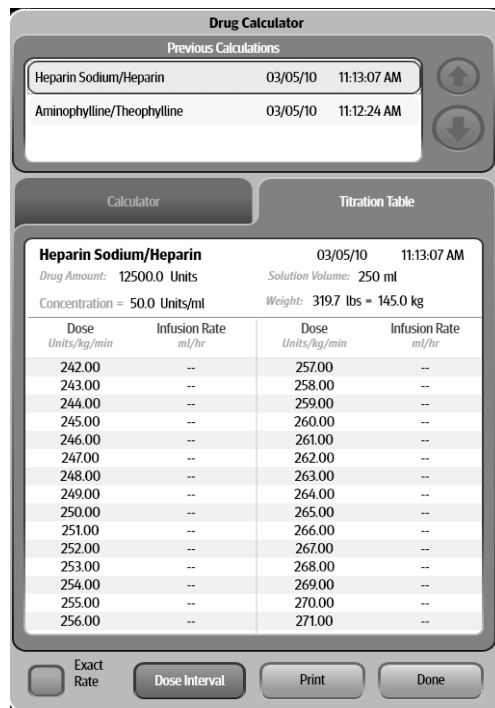

FIGURE 21-3 Example Titration Table
4. Select the **Titration Table** tab (as shown in FIGURE 21-3).